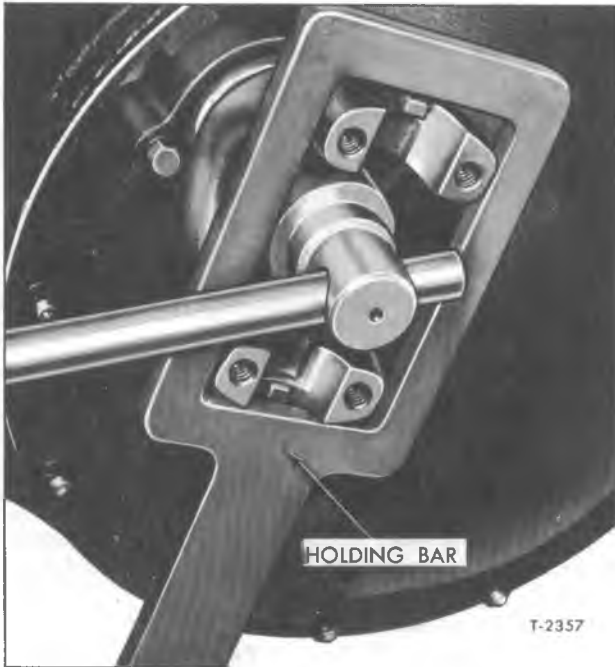

Figure 2—Propeller Shaft Yoke Holding Bar
(fig. 2) while removing yoke retaining nut and washer.
6. Coat lip of oil seal with axle lubricant, then install propeller shaft yoke, washer, and nut. Hold yoke with holding bar (fig. 2) while tightening nut to recommended torque.